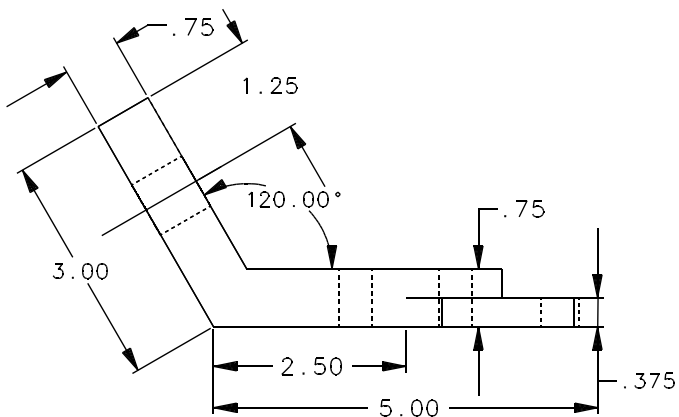

Figure 50
- Figure 50 shows the location of the 120.00 degree dimension.
161. Click on C1 (the left .375R circle), as shown previously in Figure 50.